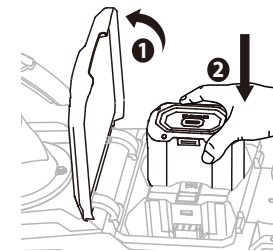

Fig. 4
1. Raise the battery cover. (1, Fig.4)
3. Align the ribs of the battery pack with the mounting slots in the battery port. Insert the battery pack into the battery holder until you hear a “click”. Ensure that the latch snaps into place and the battery feels secure. (2, Fig.4)